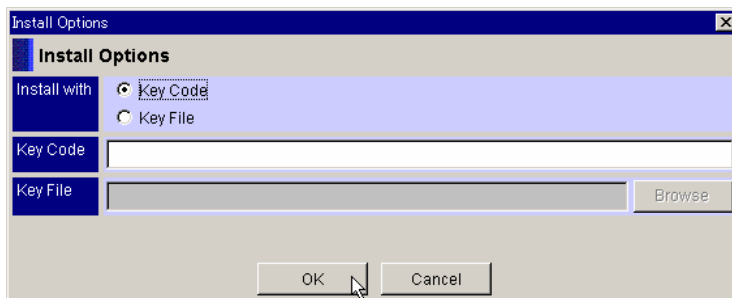

Figure 4.2 Install Options Dialog Box
3. Click the **Install** button to display the **Install Options** dialog box (see Figure 4.2).